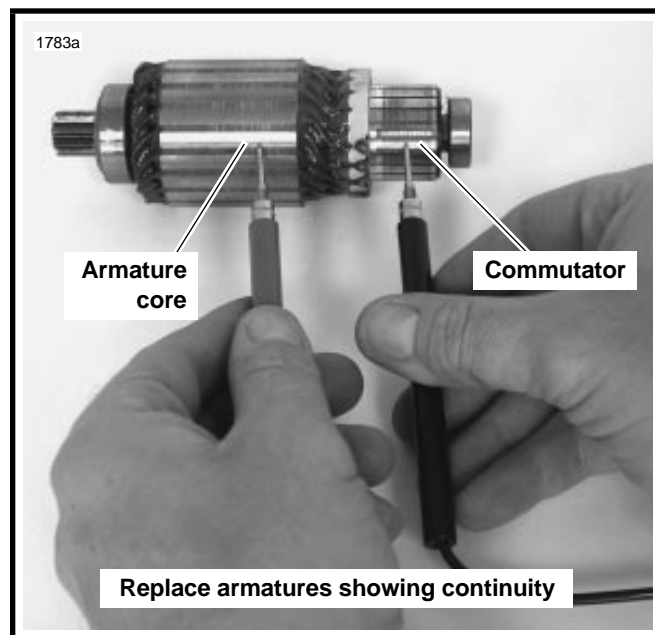

Figure 5-18. Grounded Armature Test
10. See Figure 5-18. Check for a GROUNDED ARMATURE with an ohmmeter or continuity tester. Touch one probe to any commutator segment. Touch the other probe to the armature core. There should be no continuity (infinite ohms). If there is continuity, then the armature is grounded. Replace grounded armatures.